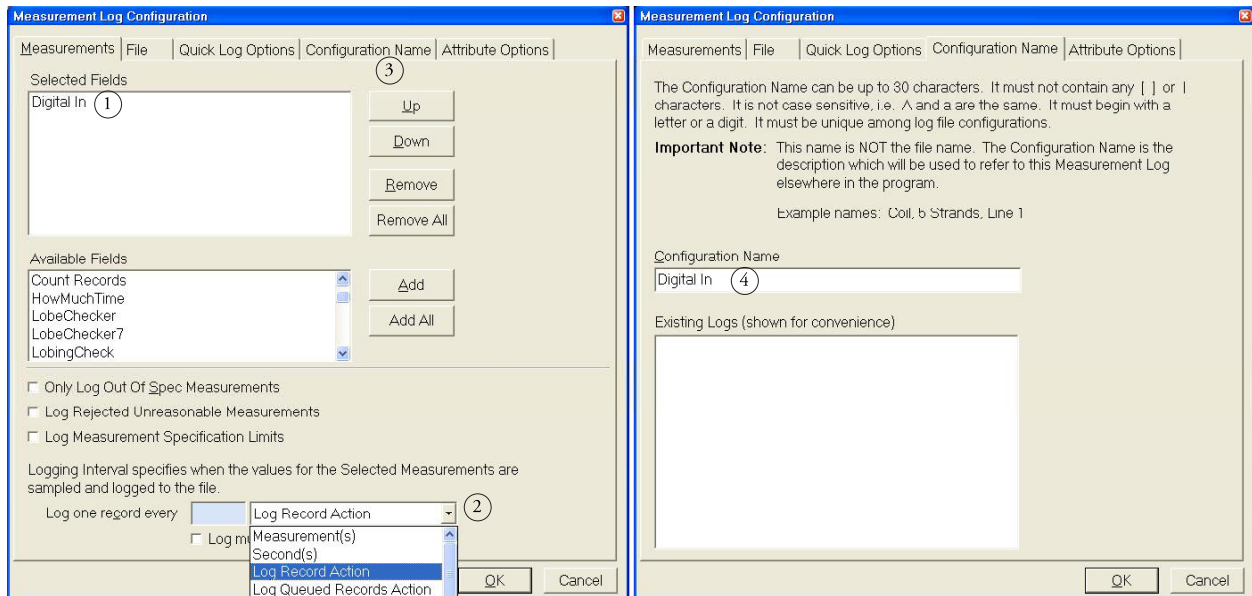

Figure 38. Measurement Log Configurations panel showing Measurements and Configuration Name tabs.
- 2.2 From the Select One Action column, select FlawEvent (*Part 1 in Figure 38*).
- 2.3 From the Select One Digital Input column, select USB-PDISO8-1 Pin IP1 (*Part 2 in Figure 38*).